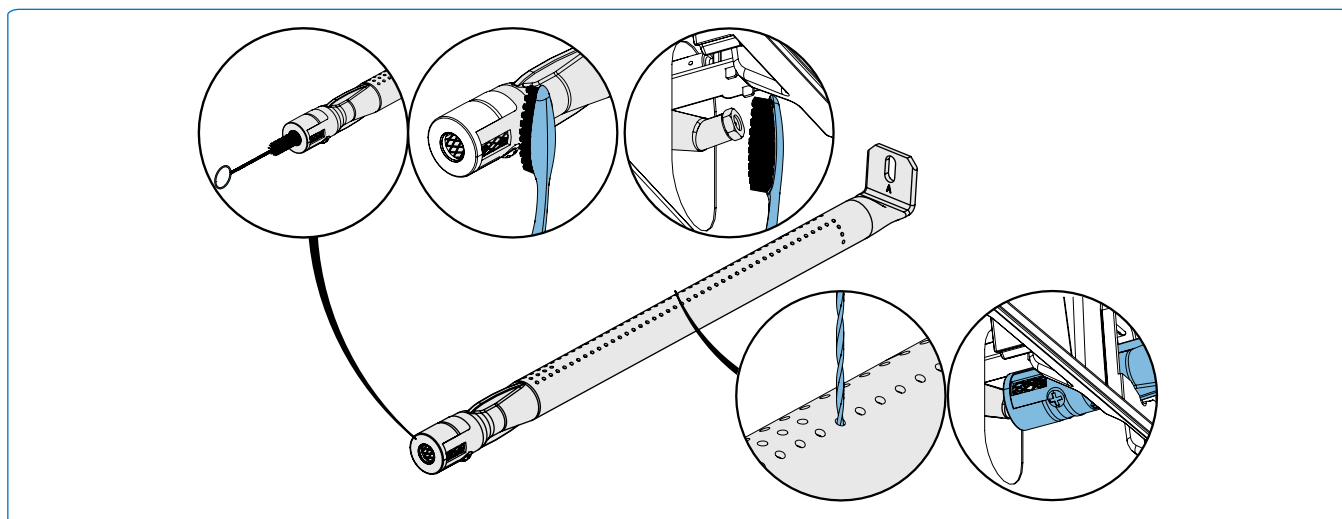

Fig. 19
1. Remove the screw (s) that attaches the burner to the back wall of the grill. Slide the burner back and upwards to remove. **(Fig.19).**